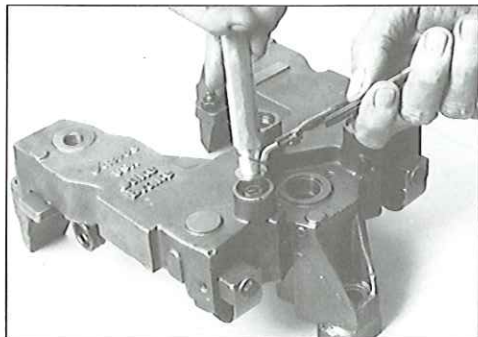

FIG. 45
1. Press down on control valve washer using an appropriate diameter rod to relieve spring pressure (see Fig. 45).